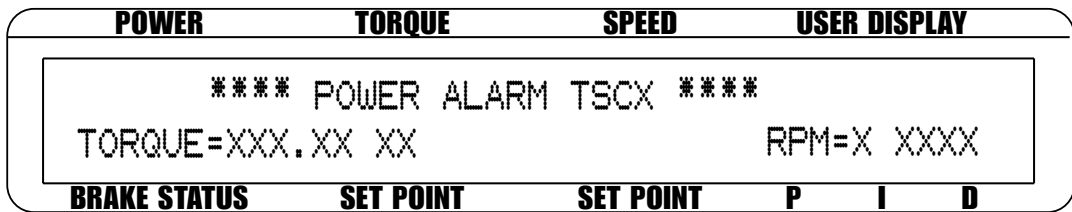

Fig.5-7 Power Alarm Display
- B. If power is greater than 120% of the maximum power setting or in condition A for greater than 5 seconds, the display will flash "POWER ALARM TSCx" (as indicated in Figure 5-7) The alarm relay will open, excitation current will hold at last value for 3 seconds then drop to zero. Standby signal is not cycled.